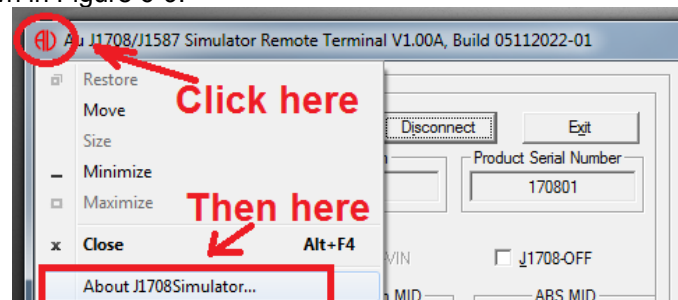

Figure 6-9
3. Click the Au Logo on the top left corner of Au J1708 Simulator Remote Terminal, then click "About J1708 Simulator ..." as shown in Figure 6-9.